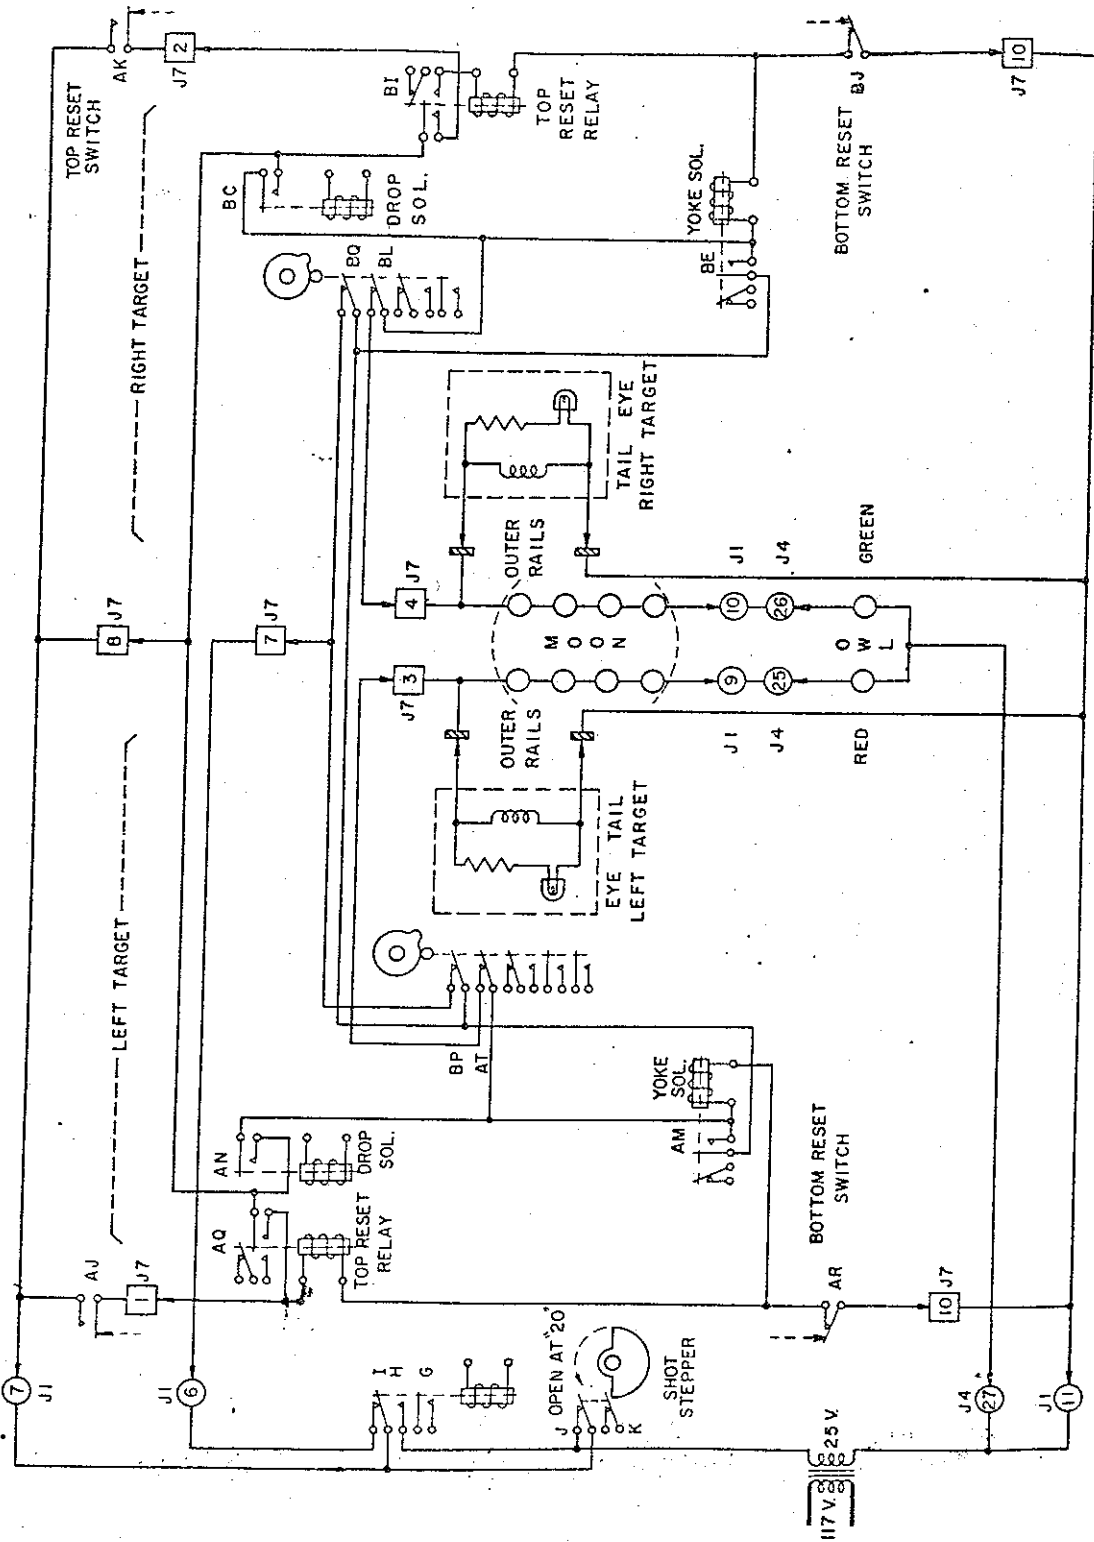
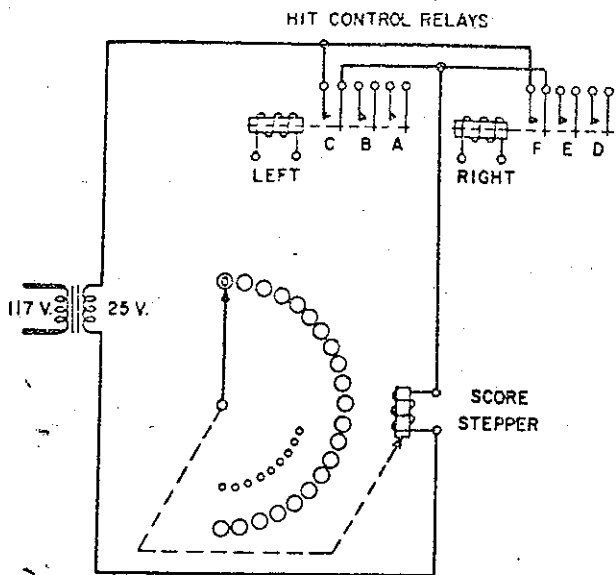

Figure 8.
Figure 10.
The target mechanism operation during the started position utilizes the 25-volt supply (through contact J of the shot stepper) and the target drive motor. Both targets operate independently. In the description that follows, the control switches and mechanical operations are referred to the target at the right side of the cabinet but apply equally well to either target and the portion of the mechanism associated with the individual target. Diagrams detailing the circuit components involved are figures 8 and 9.
2. Target reaches upper limit of travel and closes top reset switch, Contact AK. See Figure 8.
3. Top reset switch closes 25 volts to Top Reset Relay. Contacts BH and BI close; BG opens. Figure 8.
8. BC closes 25 volts to Yoke Solenoid. Figure 8.
The Score Position occurs if, when the gun trigger is pulled, the light from the gun lamp increases the level of light on a target photo cell sufficiently to "fire" a 2050 thyatron so a hit control relay is energized. The operation of the relay is discussed under Score Sensing System. When the relay associated with either target is energized, the 25-volt supply is completed to the score stepper as shown in the diagram Figure 10 and to a drop solenoid in the target mechanism. The score stepper will advance the score lamp switch one step - the "drop and turn" action takes place at the target. This action of the target occurs with the target scored on. The operational sequence follows. It is applicable to either target but the reference to switch contacts applies to the target at the right side of the cabinet and the portion of the mechanism associated with that target. Diagrams detailing the circuit components involved are Figures 8 and 9.